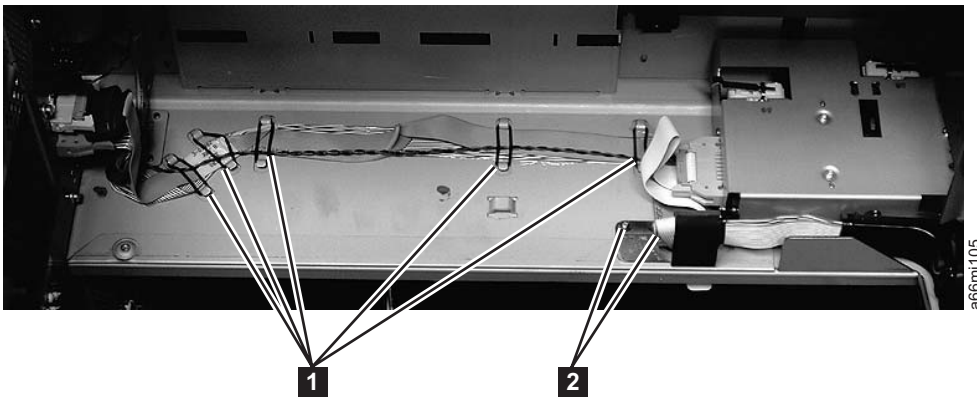

Figure 8-61. Cable assembly from the Operator Control Panel to the Backplane Connector Board
- a. Remove the cable retainers (see **1** in Figure 8-61).
- b. Remove the 2 screws from under the cable guide (see **2** in Figure 8-61) near the I/O Station lock assembly.